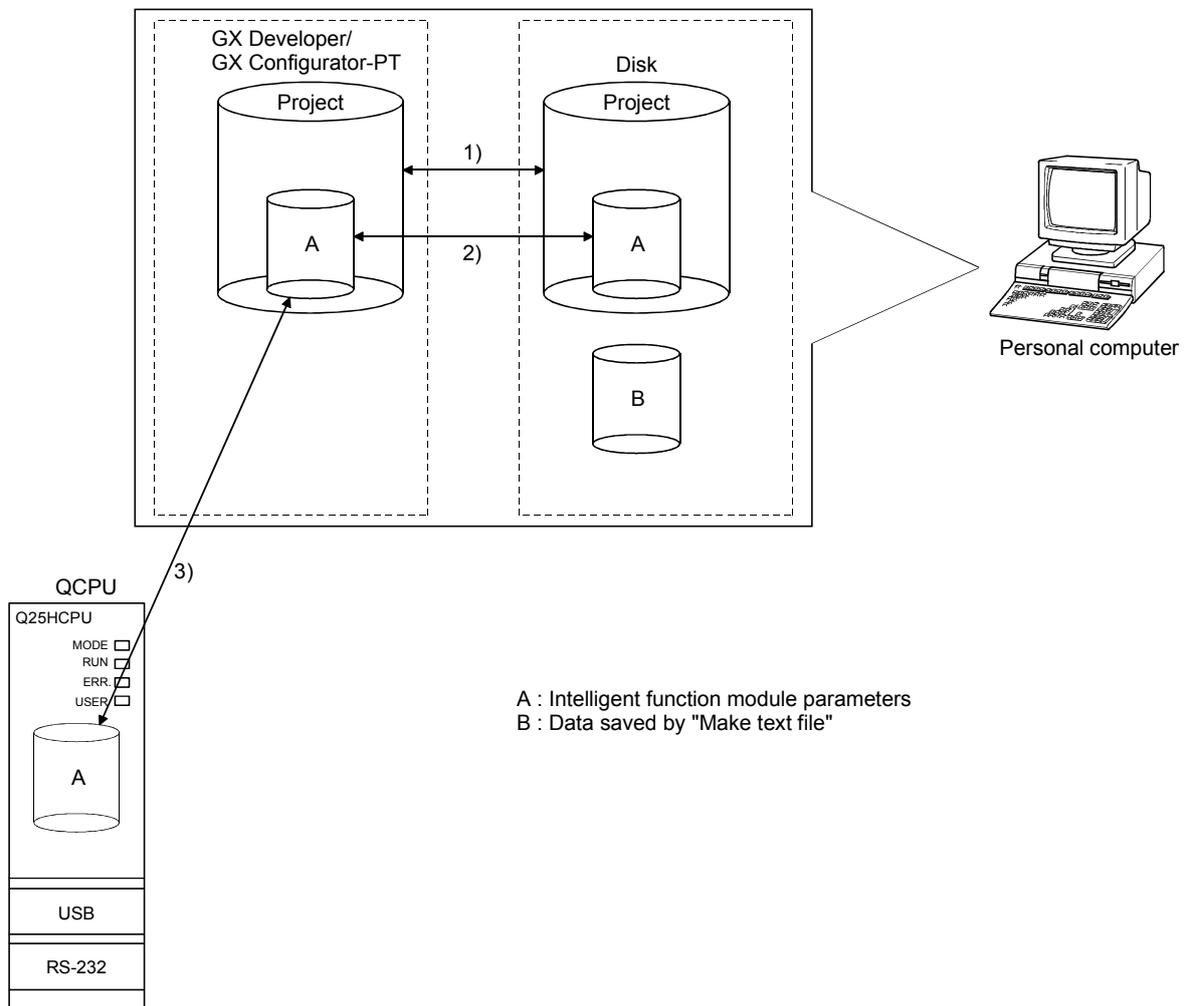

Figure 6.1 Correlation chart for data created with the utility package
The following data or files that are created with the utility package can be also handled in GX Developer. Figure 6.1 shows respective data or files are handled in which operation.
- (b) Steps 1) to 3) shown in Figure 6.1 are performed as follows: